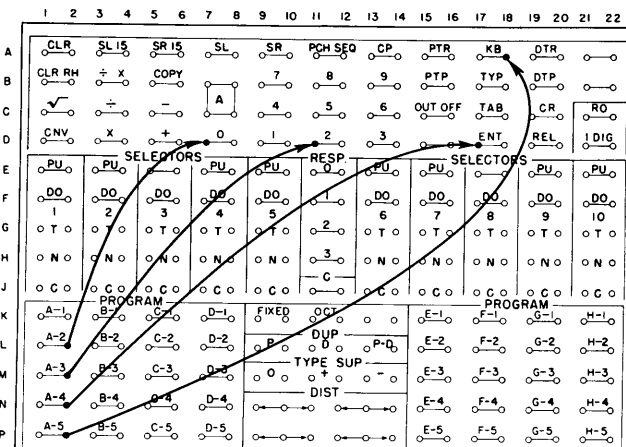

FIGURE 23. WIRING OF 02 ENT KB
- (Shown in Figure 23)
(Figure 23, Upper Center Portion)